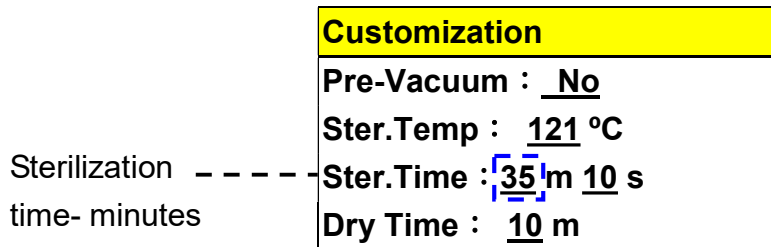

Figure 95
- Press  button to store sterilization time parameter as shown in Figure 95.